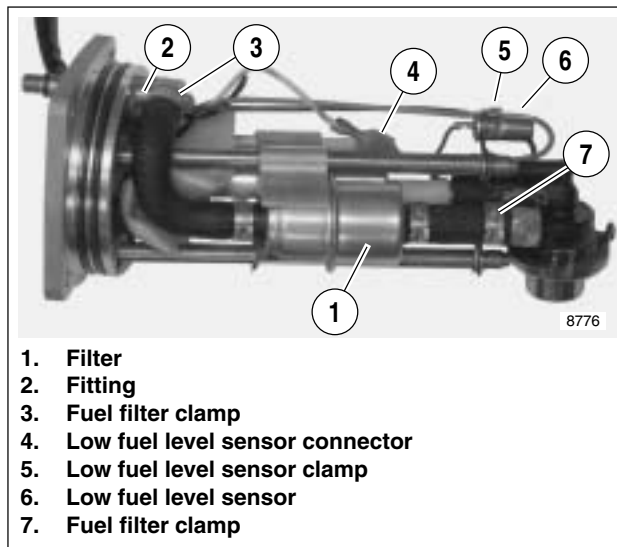
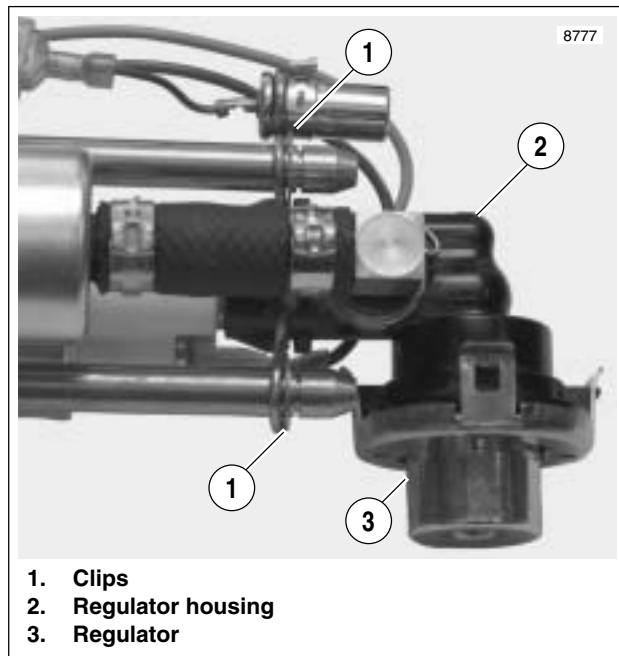
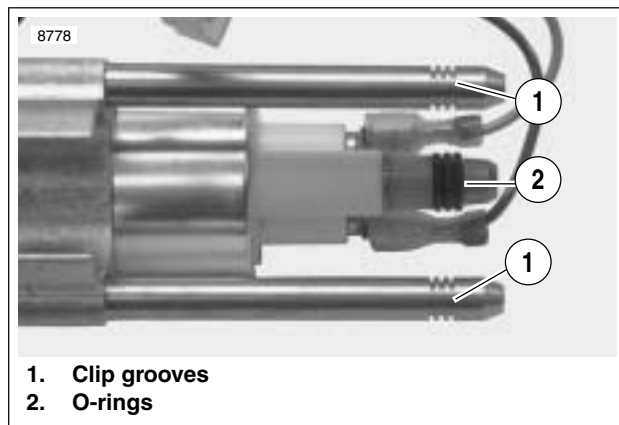

Figure 4-89. Fuel Pump Assembly (right side)
Figure 4-90. Fuel Pump Clips
Figure 4-91. Regulator Housing O-rings
2. See Figure 4-89. Disconnect low fuel level sensor connector (4).
3. Remove clamp (5) securing low fuel level sensor (6) in place.
2. See Figure 4-89. Remove fuel pump clamps (3, 7).
3. See Figure 4-90. Remove fuel pump clips (1).
4. Pull regulator housing (2) from fuel pump assembly.
5. See Figure 4-91. Discard regulator housing o-rings (2).
6. See Figure 4-89. Remove fuel filter hose from fitting (2) and remove fuel filter (1).
7. Install **new** fuel filter (1) on fuel filter hose.
9. Install **new** fuel filter hose with 90° bend towards fitting (2).
10. See Figure 4-91. Install **new** regulator housing o-rings.
12. See Figure 4-89. Tighten fuel filter clamps (3, 7).
13. See Figure 4-90. Install clips (1) into center grooves.
2. See Figure 4-89. Remove fuel filter clamp (3). Disconnect hose from fitting (2).
3. See Figure 4-90. Remove clips (1).
9. See Figure 4-89. Attach fuel filter hose to fitting (2) with clamp (3).
10. See Figure 4-90. Install clips (1) into middle grooves.
14. See Figure 4-89. Attach fuel filter hose to fitting (2) with clamp (3).
15. See Figure 4-90. Install clips (1) into middle grooves.